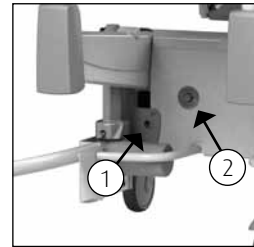

Figure 18
- Remove the plug from the handcontrol (1) (See figure 18).
- Press the emergency lowering button (2) (See figure 18).